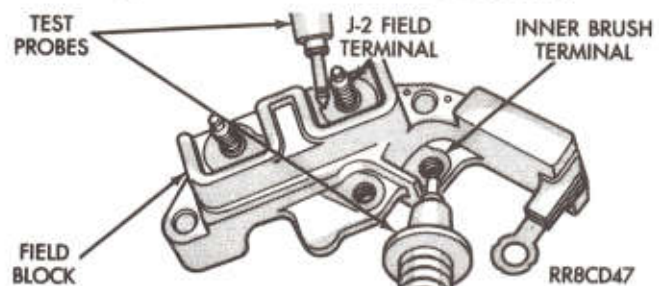

Fig. 4—Test Field Block J-2 Terminal
(2) Test for continuity from the inner brush terminal to the J-2 field terminal; the circuit should be closed (Fig. 4).